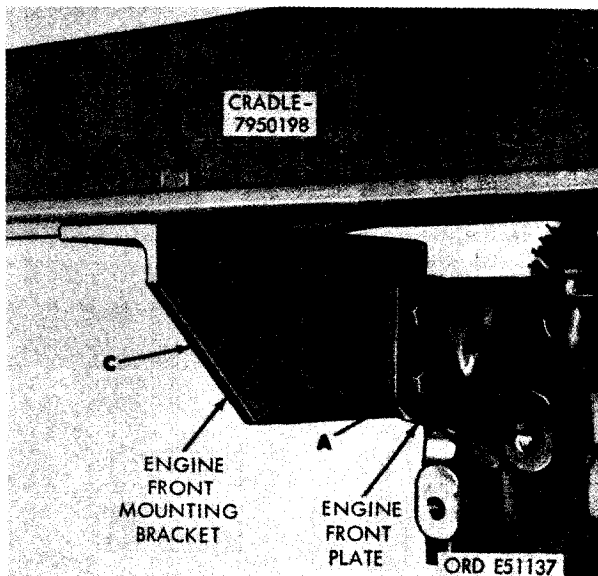

FIGURE 296. REMOVING OR INSTALLING ENGINE FRONT MOUNTING BRACKETS.
- (2) Figure 296. (A) Remove four 7/16 x 1-3/8 cap screws and 7/16-inch plain nuts securing left and right front mounting brackets to engine. (B) Remove two 5/8 x 1-3/4 cap screws and 5/8-inch plain nuts securing mounting brackets to cradle. (C) Remove both front mounting brackets.